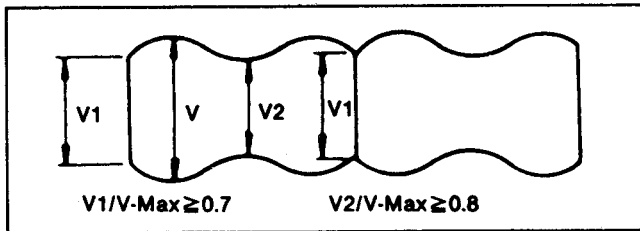

Fig. T7
- (1) Set the Tracking Control to the fixed position by pushing both of the Tracking Control Up/Down switches simultaneously. Connect the oscilloscope to TP8002.
- (2) Playback the monoscope portion of the alignment tape and confirm that RF envelope appears as show Fig. T7